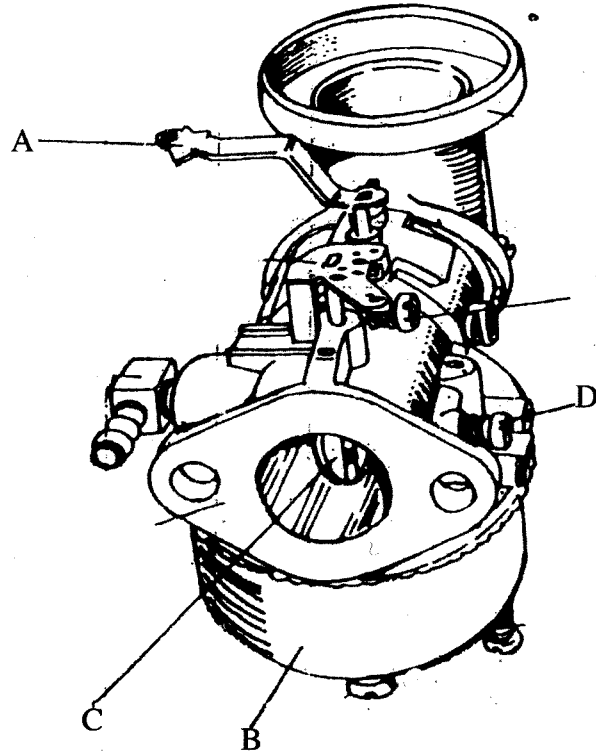

Figure 1
- 10 **Figure 1** shows a single cylinder engine carburettor.